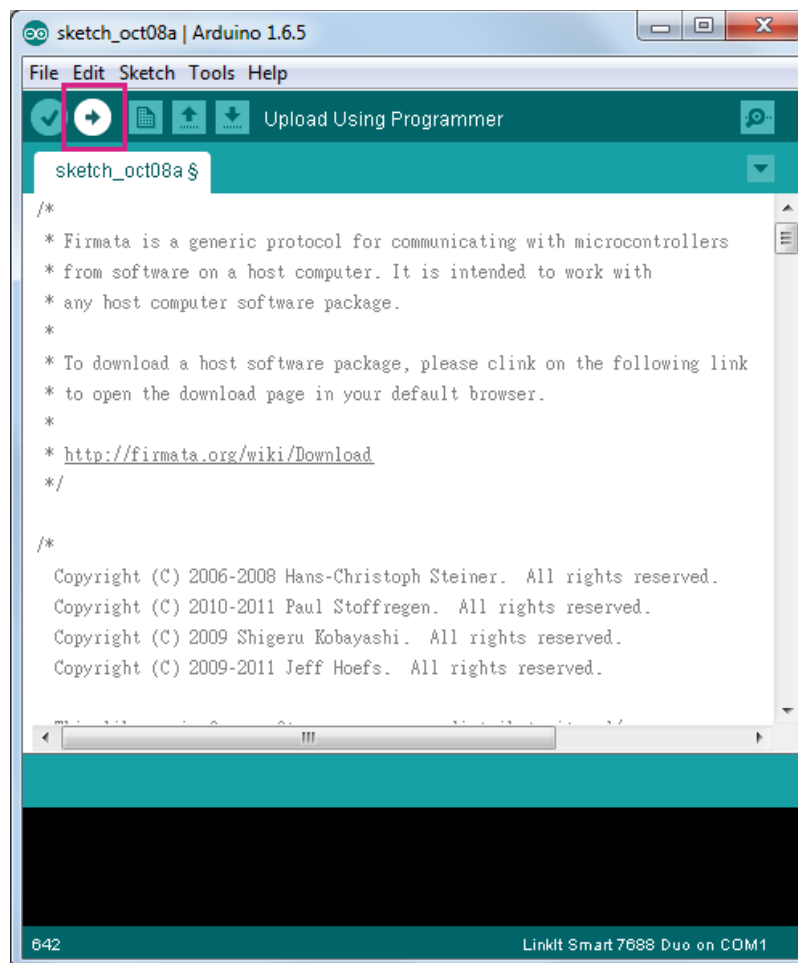

Figure 59 Uploading example sketch in Arduino IDE
- Copy the example code to the Arduino IDE and click **Upload**, as shown in Figure 59.